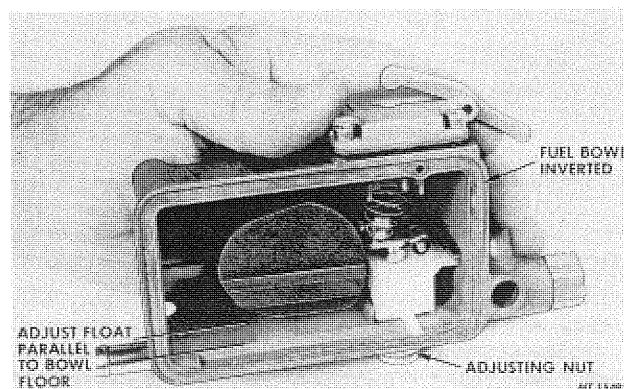

FIG. 38 Preliminary Float Adjustment Externally Adjustable Fuel Inlet Valve — Internally Adjusted Fuel Inlet is Similar
5. Install the fuel inlet needle and seat assembly through the top of the fuel bowl. Then install the adjusting nut gasket. Align the flats of the seat and the adjusting nut and install the nut. Install the lock screw and gasket. Invert the bowl and turn the adjusting nut until top of float is parallel to top of bowl. This preliminary adjustment will run the engine until the fuel level can be properly checked through the sight plug hole after the carburetor has been installed on the engine (Figure 38).
6. Slide the inlet baffle into the grooves (Figure 38).
7. Slide the inlet baffle into the grooves (Figure 38).
9. To adjust the dry float setting (internally adjusted needle and seat), adjust float parallel to bowl floor as illustrated in (Figure 38). If an adjustment is necessary, carefully bend float tang until proper adjustment has been obtained using care not to nick or damage portion of tang which contacts needle.